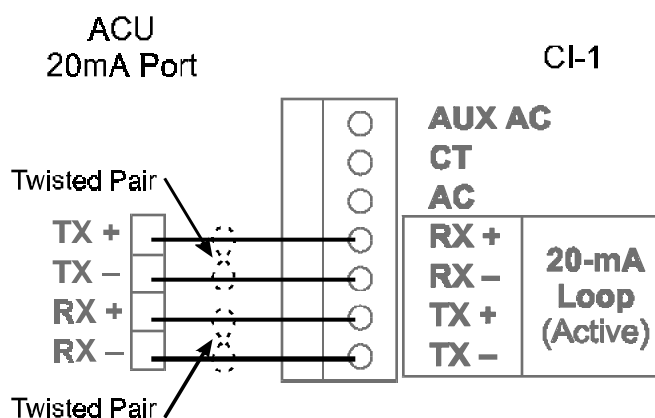

Figure 1-6: CI-1 to Single ACU Connection
2. Check that the correct wire type has been used for the 20mA loop connections. Check for correct wiring; TX- and TX+ should use one twisted pair, RX- and RX+ should use the other twisted pair. See Figures 1-6 and 1-7.